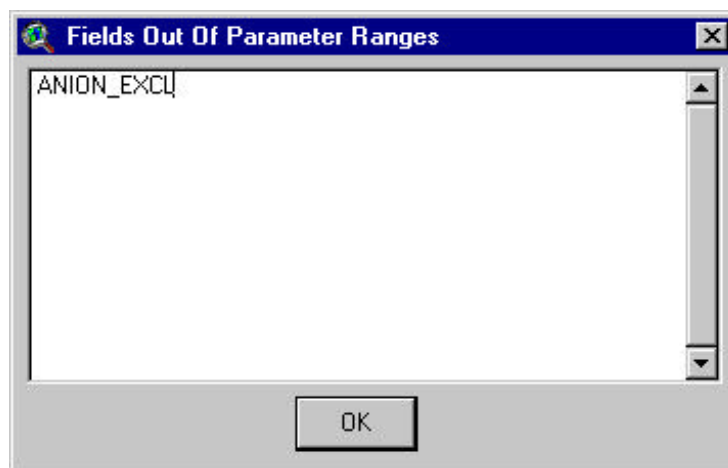

Figure 14.6
- f. A prompt box may appear, notifying the user of out-of-range parameter values (Figure 14.6).